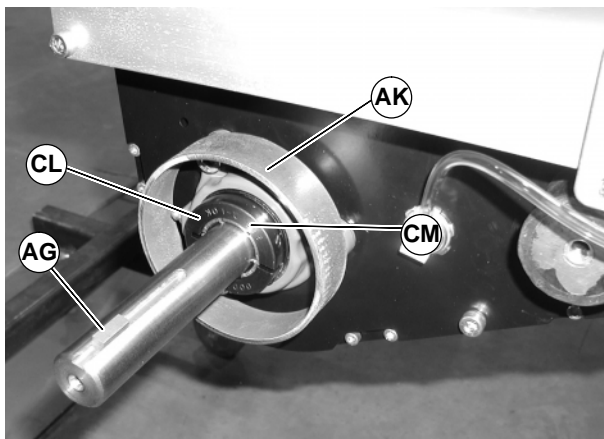

Figure 85
3. Remove spacer ring (AK of Figure 85) and key (AG). Loosen clamp screw (CL) and remove bearing collar (CM).
7. Reinstall bearing collar (CM of Figure 85). Tighten clamp screw (CL) to 95 in-lbs (11 N-m).
8. Reinstall key (AG of Figure 85).